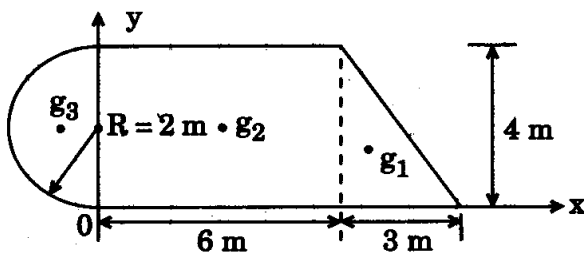

Figure 3
- (b) Determine the centroid of the area shown in Figure 3, with respect to the axes as shown. 8